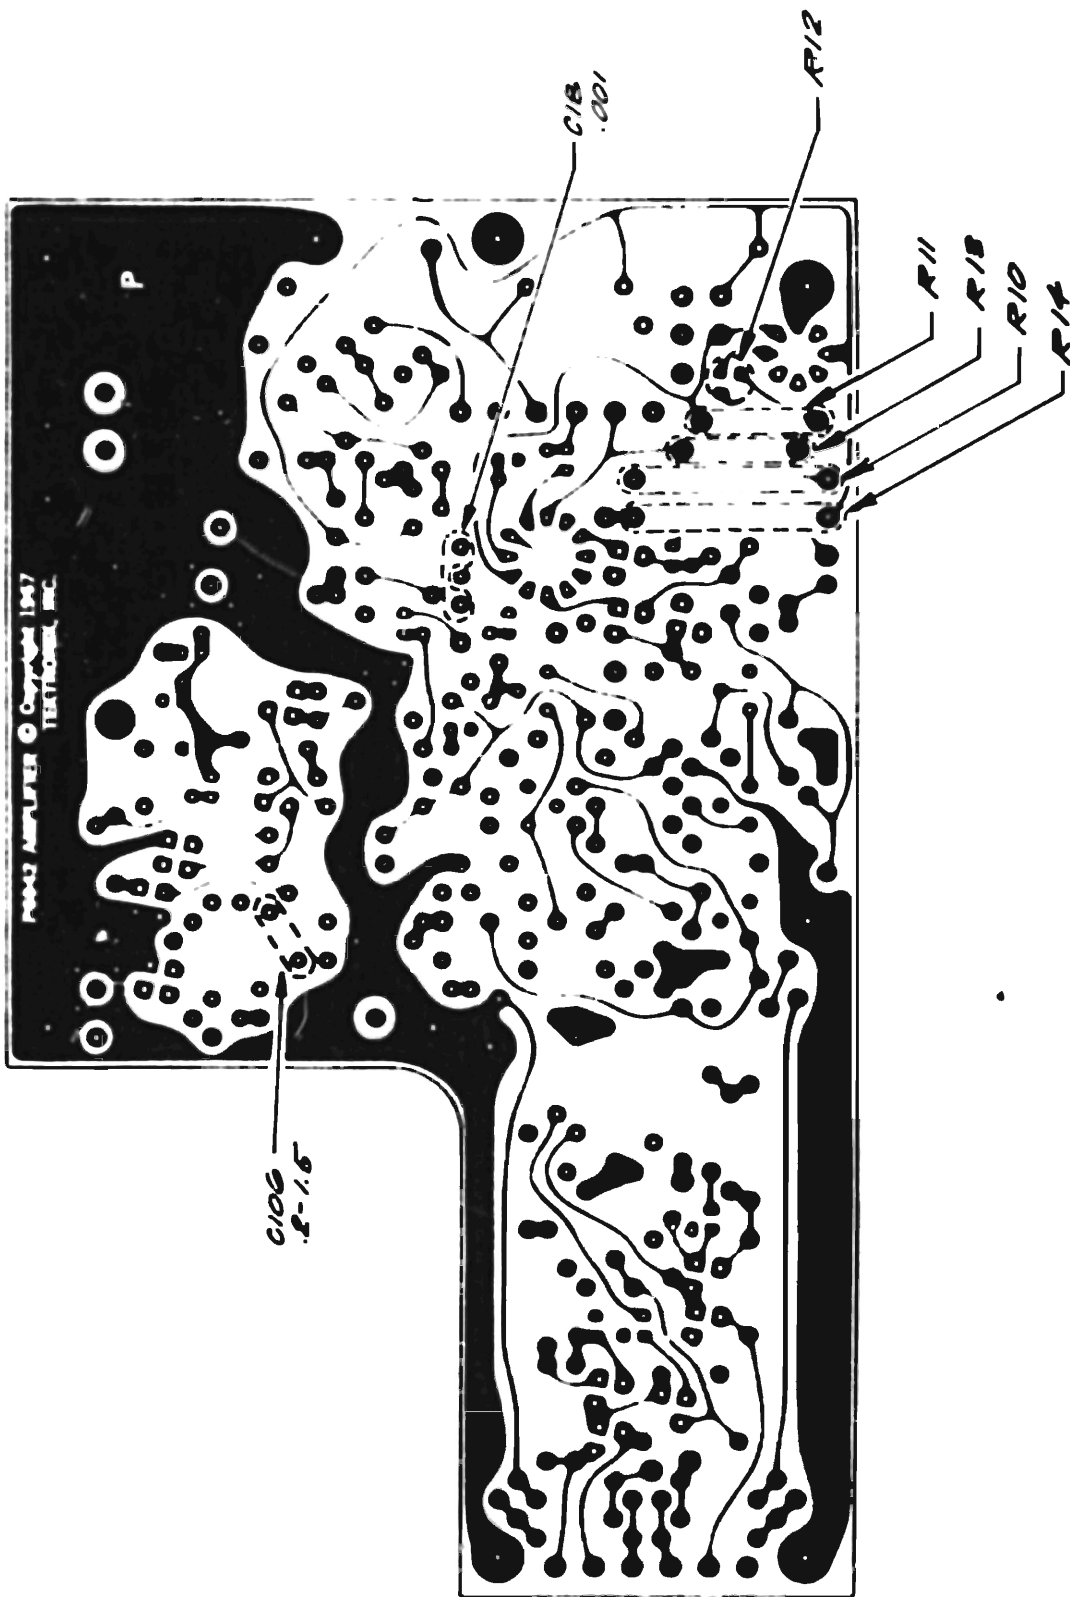

FIG. 1
Refer to Fig. 1 for steps 5 through 10.
- () If R11 was installed in step 7, adjust R12 (see Fig. 1 for location) to the CLOCKWISE extreme.
- () If R13 was installed in step 7, adjust R12 (see Fig. 1 for location) to the COUNTERCLOCKWISE extreme.